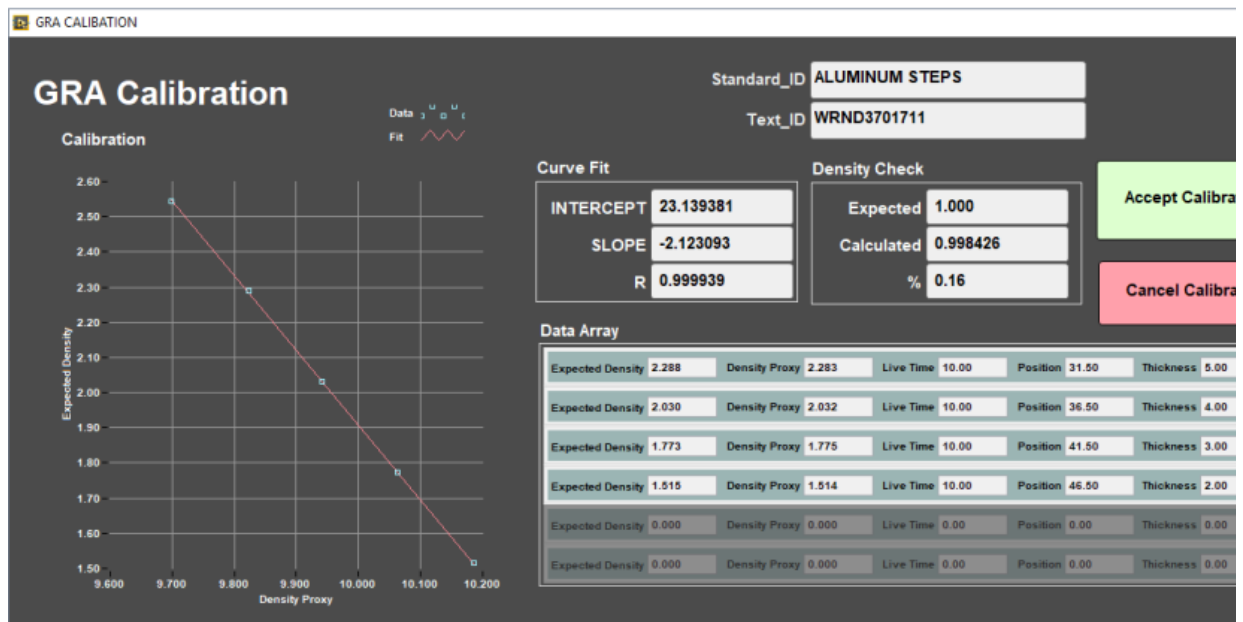

Figure 8. GRA Calibration after data acquisition
4. The data points will be visible on the GRA Calibration graph. When the calibration measurements have completed, the window will display a density check. You may choose to apply or cancel the values at this time (*Figure 8*).
You can use the controls Requested Stack and Threshold in **PWL Calibration Utility** window to adjust the measurement parameters to obtain a better waveform (*Figure 8*). These parameters may need to be adjusted if the section material has changed.